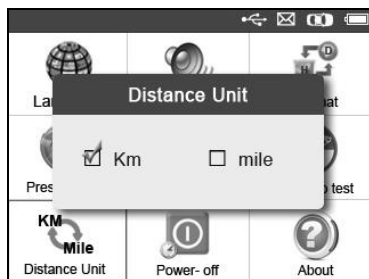

Figure 3.9
- 2) From **Distance Unit** screen, use the **LEFT/RIGHT** scroll button to select the desired unit of distance: **Km** or **mile**. (Figure 3.9)